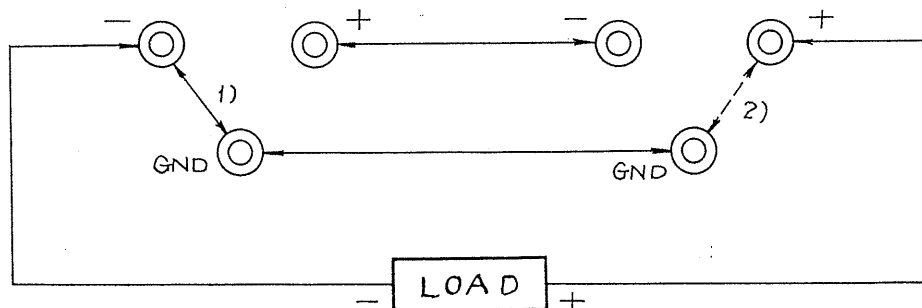

Fig.4
- 1) In the case of minus grounding (connection shown with the bold line of Fig.4)
- 2) In the case of plus grounding (connection shown with the dotted line of Fig.4)